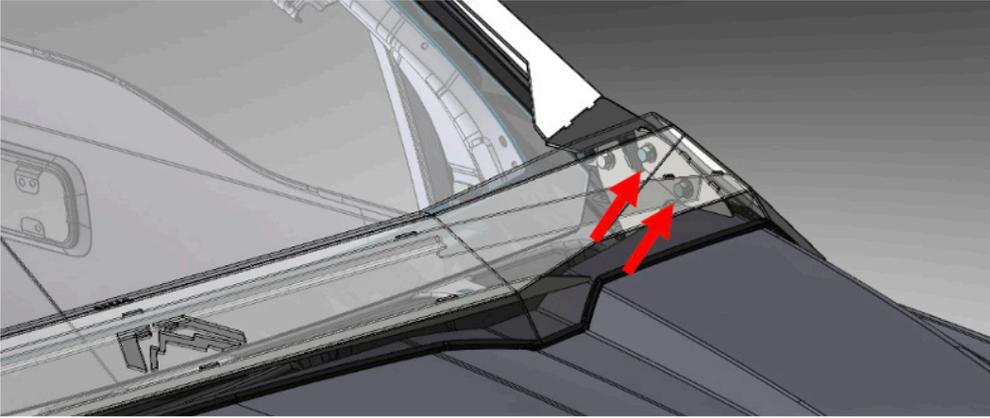

Figure 26.
24. Loosely install the 4x yellow zinc hex head 3/8"-16 bolts, flat washers and lock washers into the cowl as shown in Figure 26 and indicated by the red arrows. Figure 26.